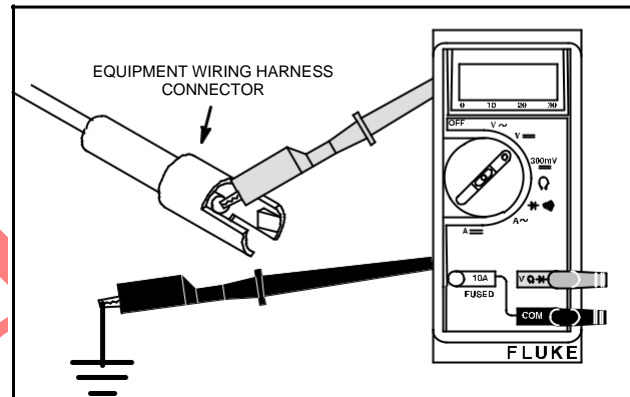

Fig. 60 – Test Equipment Wiring
3. Attach black test lead to a good ground, Fig. 60.